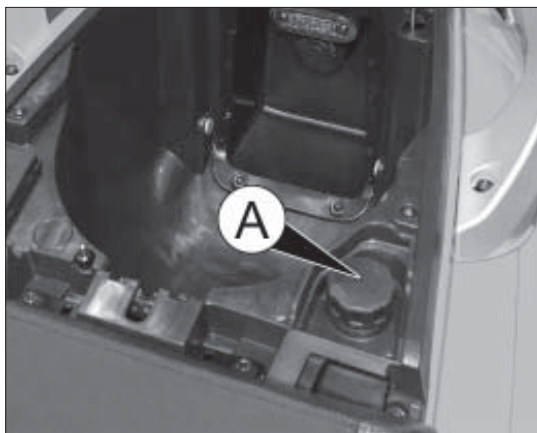

fig. 4
- unscrew the cap A in fig.4 (green).